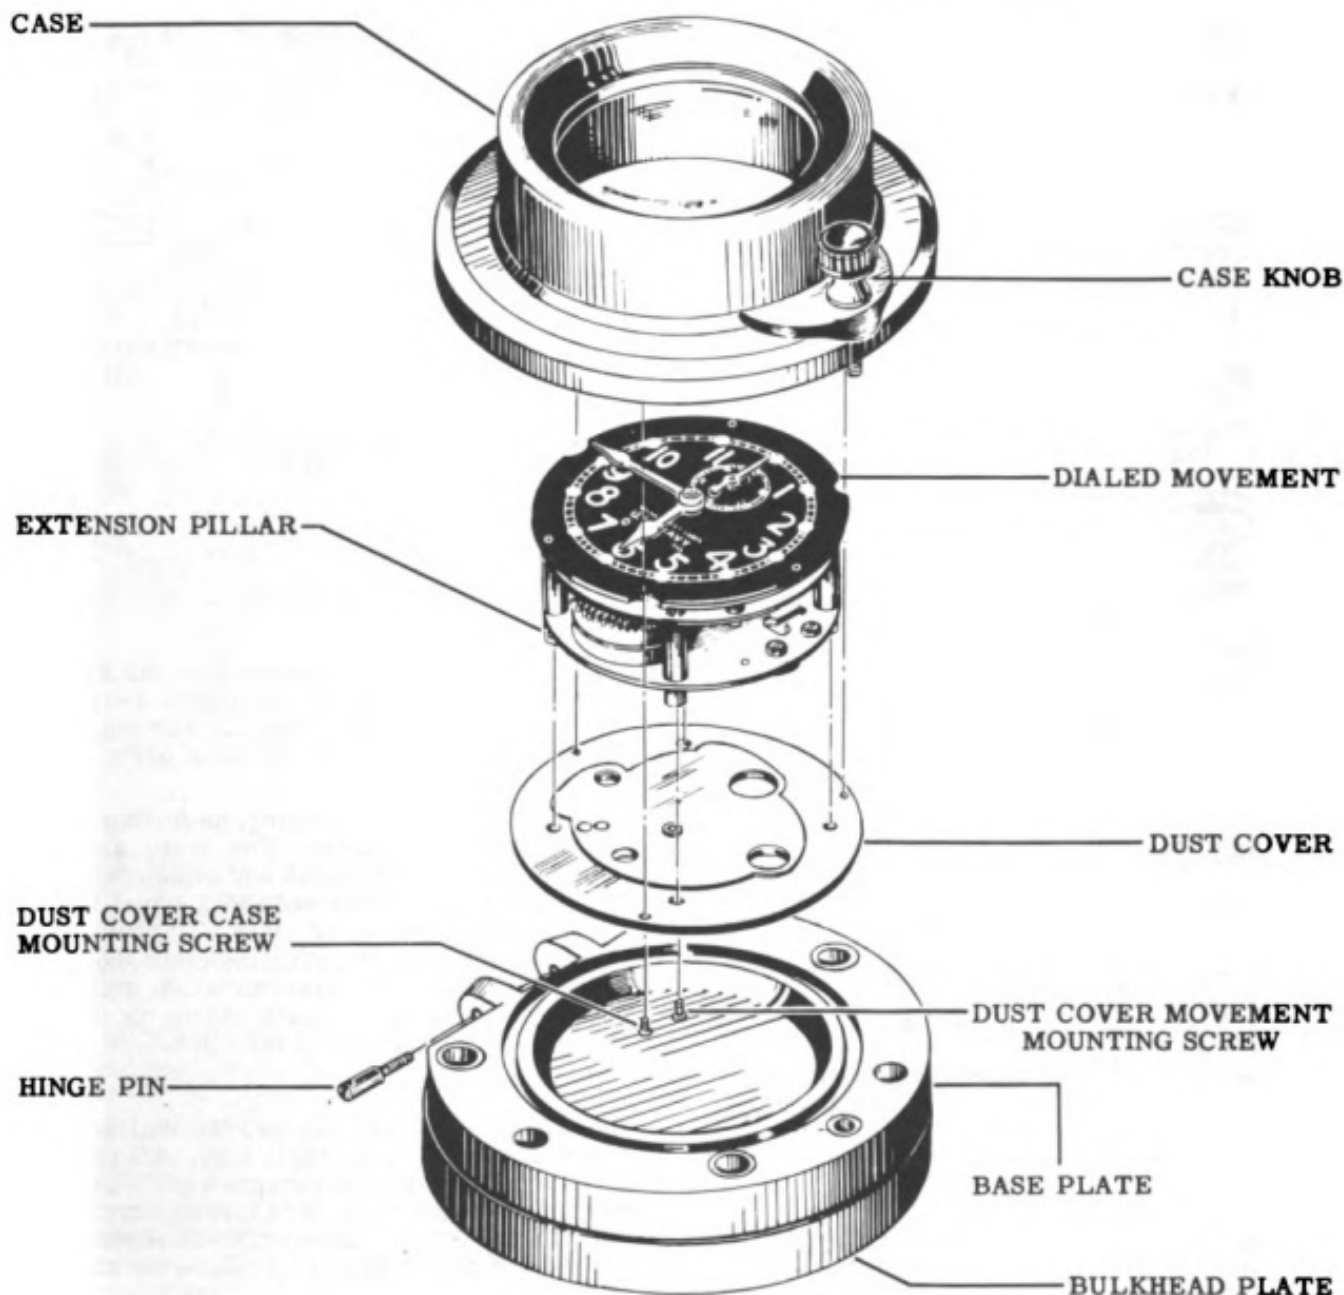

Figure 26
1. With the fingers, loosen the case knob on the side of the case until the case is free to swing away from the back plate. Refer to Fig. 26 for identification of all parts in Operations 1 through 6.
2. In the Deck Clock, the case should be disengaged from the hinge pin to separate the case from the base plate. In the Boat Clock, the screw-type hinge pin must first be unscrewed. See Fig. 26.
3. Put the case on the work bench, dial down. Remove the three dust cover case mounting screws which hold the dialed movement and the dust cover inside the case. See Fig. 26.